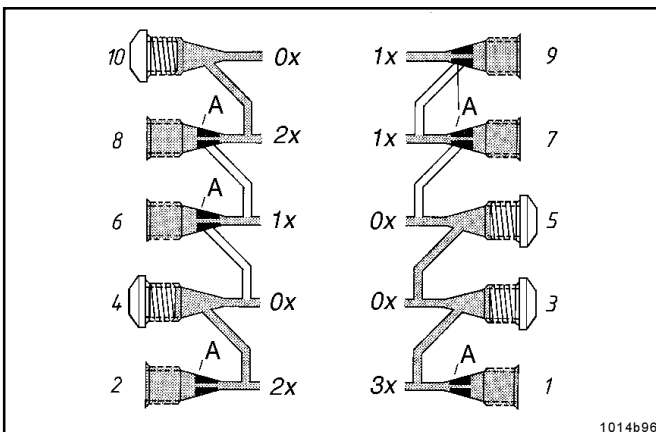

Fig. 22 - Single, double and triple lubricant output
- As shown in Fig. 22, outlet borehole 10 has been closed. The lubricant quantity supplied by this outlet flows out of the metering device via outlet 8.
- If a triple quantity is needed (at outlet 1), close the outlet borehole located above the discharge borehole. Refer to outlets 3 and 5 on Fig. 22.